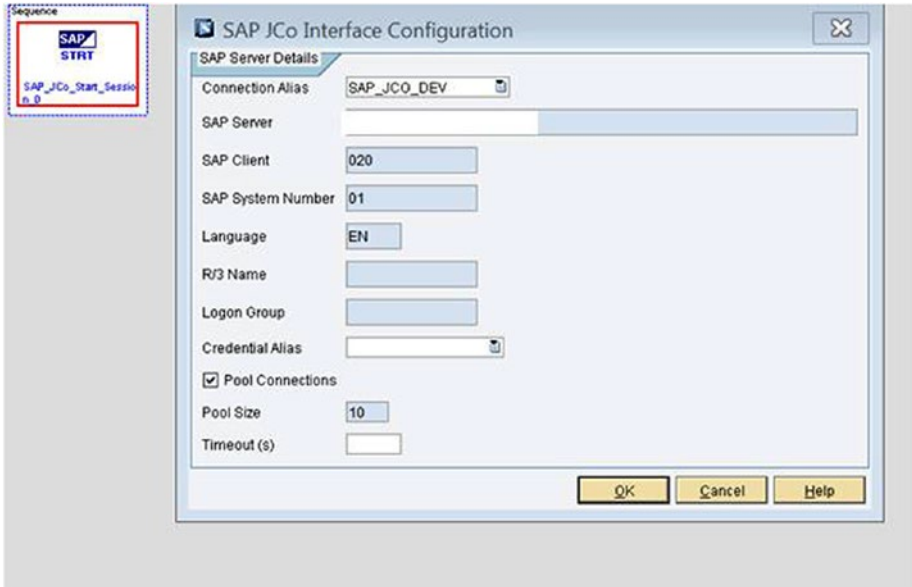

Figure 7-169. JCo Start Session action block and its configuration
- **SAP JCo Start Session:** This action opens a session between SAP MII and SAP ERP Central Component (SAP ECC). See Figure 7-169.